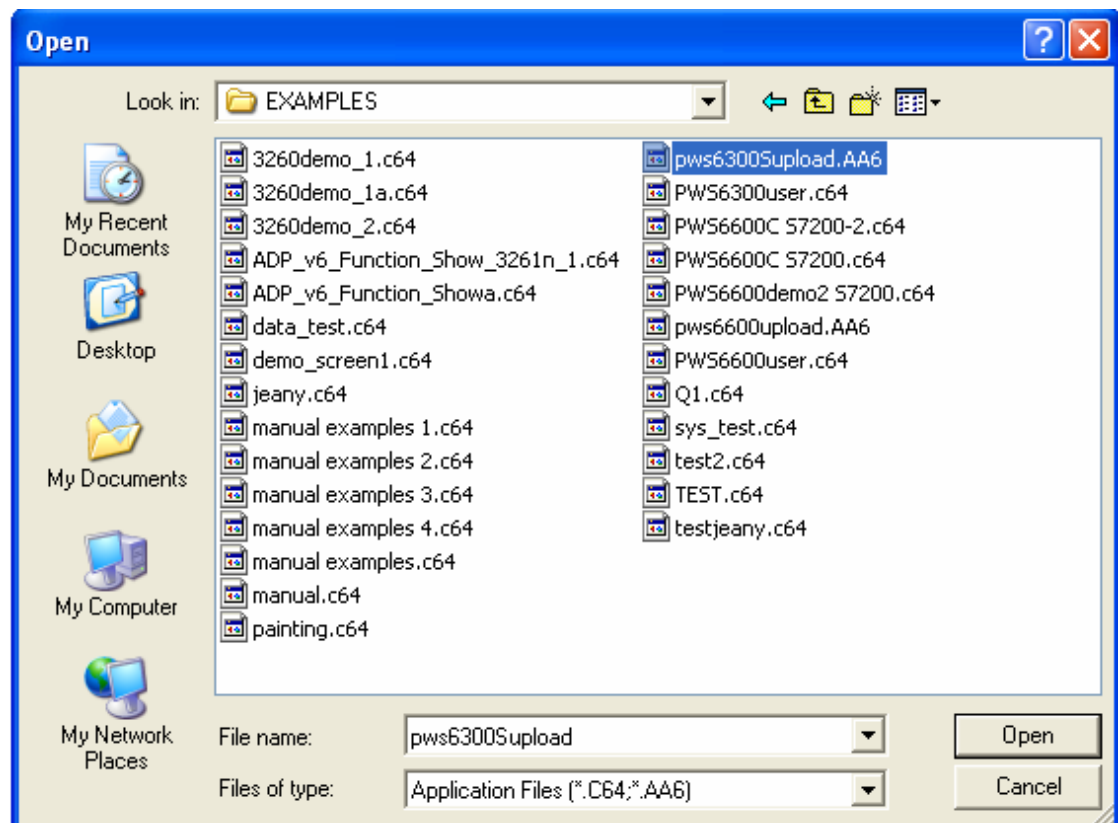

Figure 16. The [Reconstruct Source] Dialog Box
2. Next, select [File]/[Reconstruct Source] and open the application file (*.C64 or *.AA6). Thus the application should be appeared on the PC and a user can save the source file as *.V6F for future use. See Figure 16.